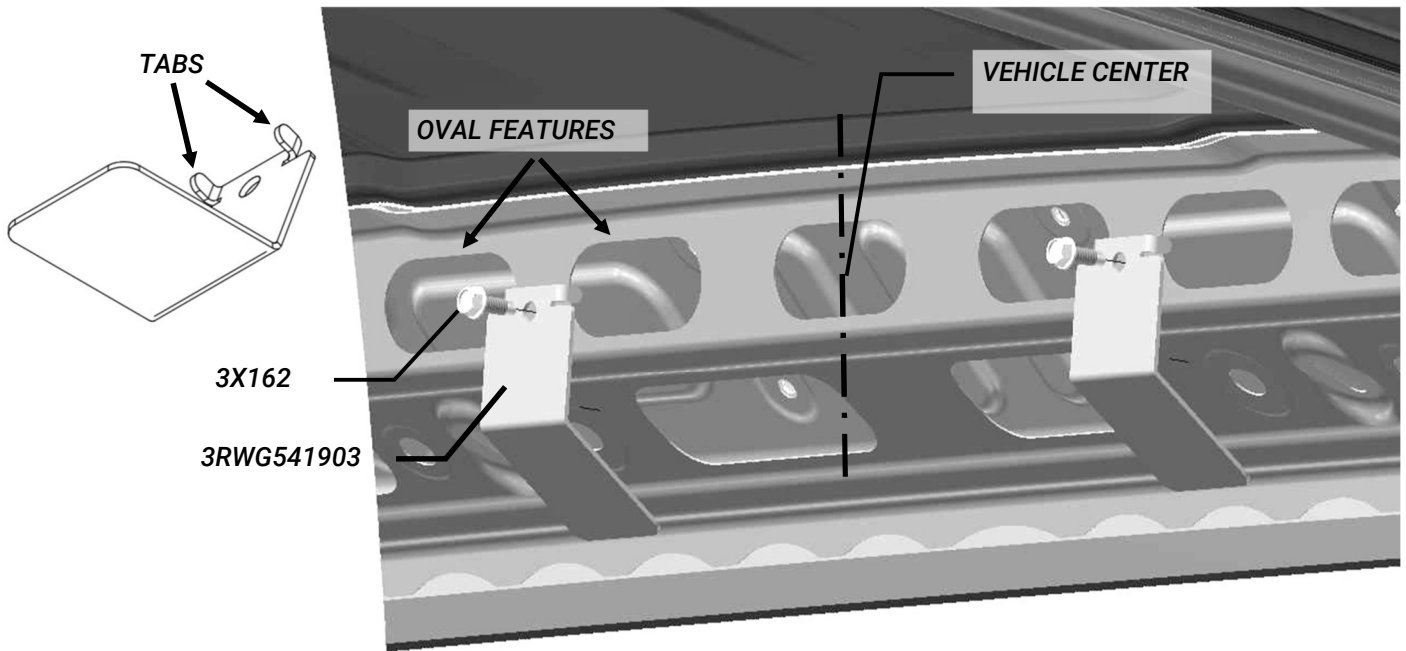

Figure 4
- J. Locate (2) upper headliner brackets [3RWG541903] by centering bracket tabs with surface between oval features and fasten with (2) self-drilling screws [3X162] (Fig. 4)